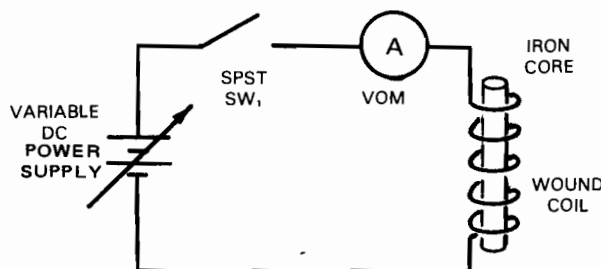

Fig. 6-3-2
5. Remove iron core from coil. Connect coil to variable dc power supply, as indicated in Fig. 6-3-2. VOM is used to measure circuit current flow.